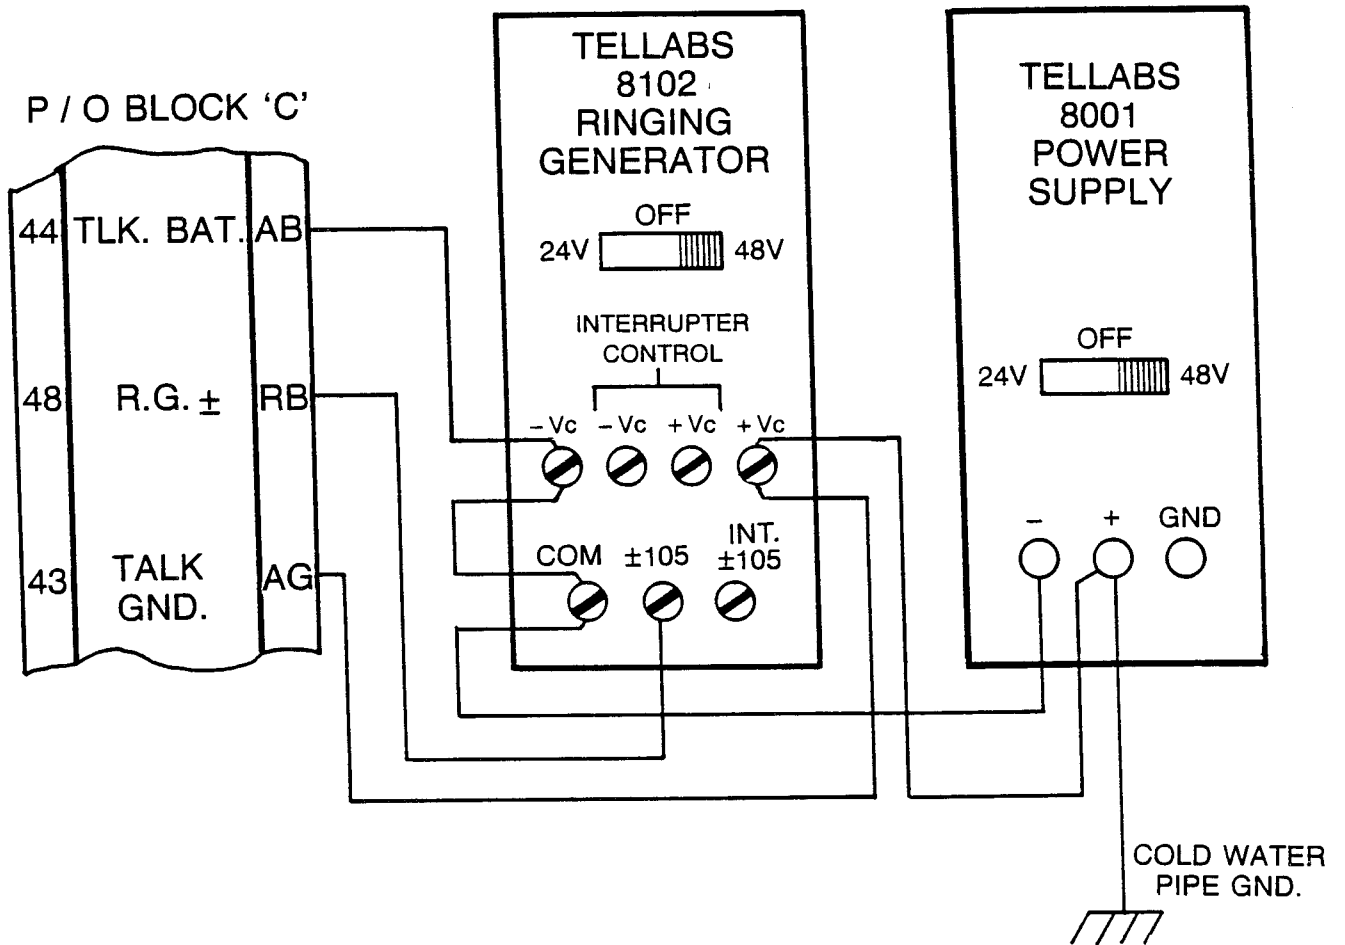

Figure 6 CONNECTING 6 CARD KSU TO POWER SUPPLY AND RINGING GENERATOR
4.06 Ground the KSU and Power Supply by connecting a 14 AWG wire to the positive (+) terminal on the Power Supply and a cold water pipe ground (Figures 6, 7).
4.07 Connect the 6 Card or 13 Card KSU to the Power Supply and Ring Generator as follows (Figures 6, 7):
To connect the 6 Card KSU to the Power Supply and Ringing Generator (Figure 6, Table 2):